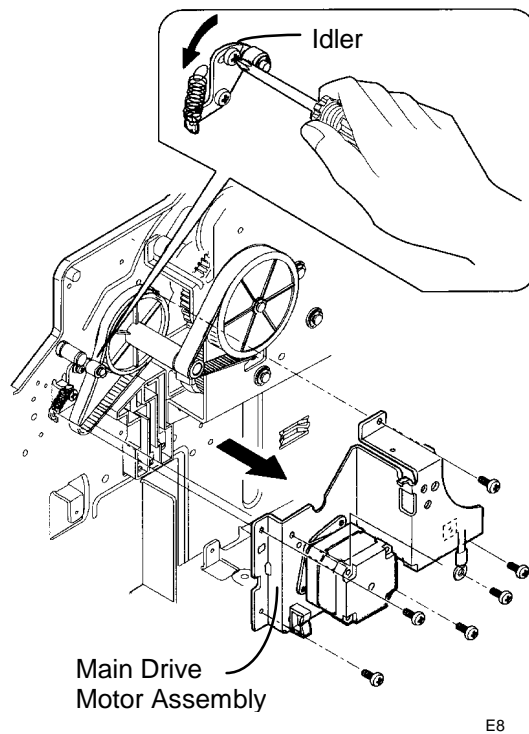

Figure 2. Removing the Main Drive Motor Assembly
3. (Figure 2): Loosen the Idler, if required.